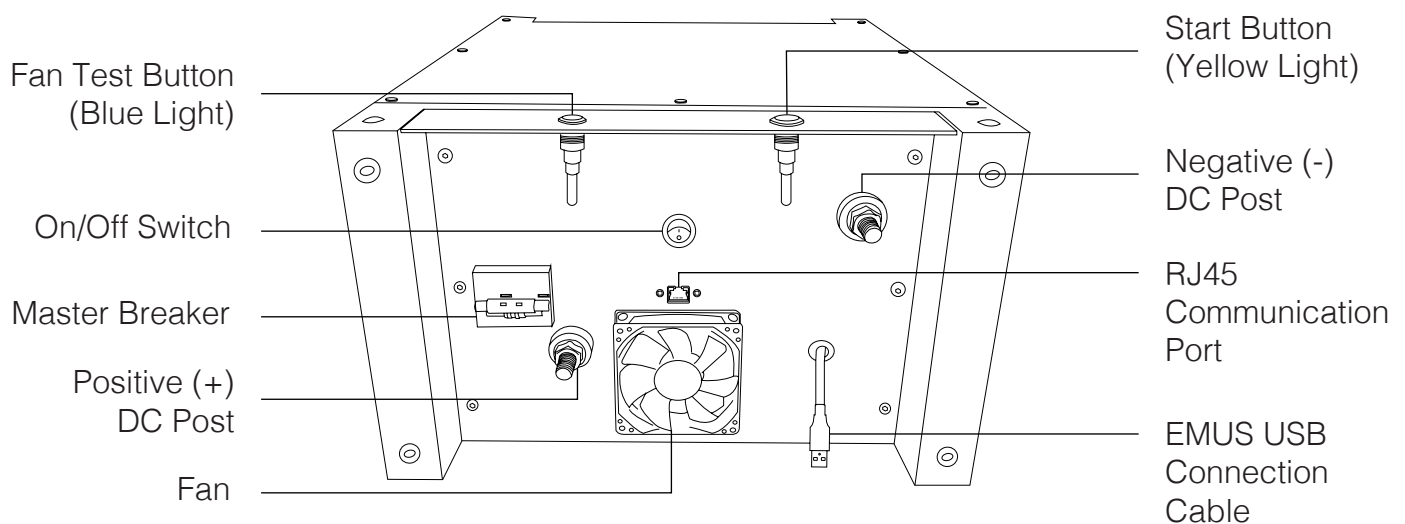

Figure 4: Buttons Used During The Start-Up Procedure
(See Figure 4 for a diagram showing the buttons used during the start-up procedure)
- 3 See Figure 4 for a diagram showing the buttons used during the start-up procedure.